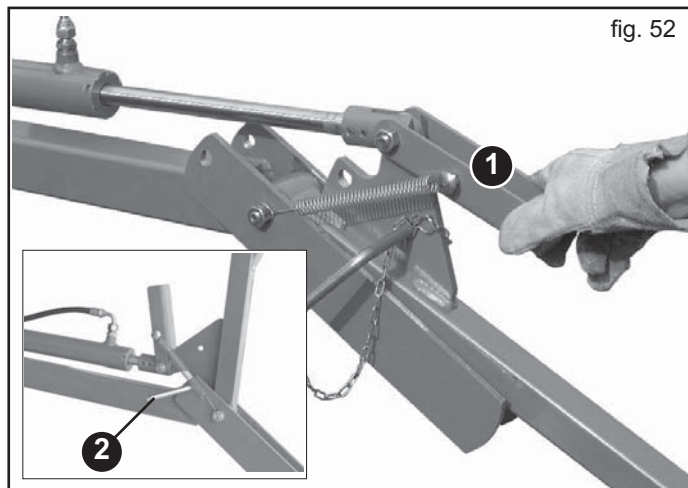

fig. 52
- 2) Raise the clamp (1, Fig. 52).
- 3) Actuate the hydraulic system to raise the seed-covering harrow fully into its transport position, lock it in place with the securing bolts (2, Fig. 52) and secure the bolts with the special retaining clips. **The securing bolts should be inserted from the inside of the machine towards the outside, otherwise they would be damaged by the raising of the rear trolley.**